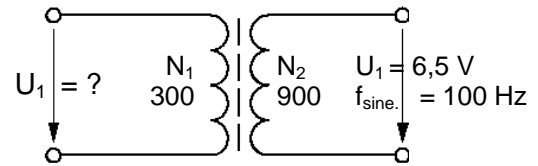

Fig. 18.4.9: Exercise circuit, transformer $N_1 = 300$, $N_2 = 900$ with core
- The coils are now changed over (Fig. 18.4.9). Now, the primary coil has $N_1 = 300$ windings and the secondary, $N_2 = 900$ windings. Calculate the value that must be set for the input voltage U_1 to give an off-load voltage at the secondary of the transformer of $U_2 = 6,5$ V, $f = 100$ Hz?
- Assemble the transformer on the Electronic Circuits Board as shown in Fig. 18.4.9 and prove your calculations by measurement (Slowly and carefully, increase the voltage at the function generator).